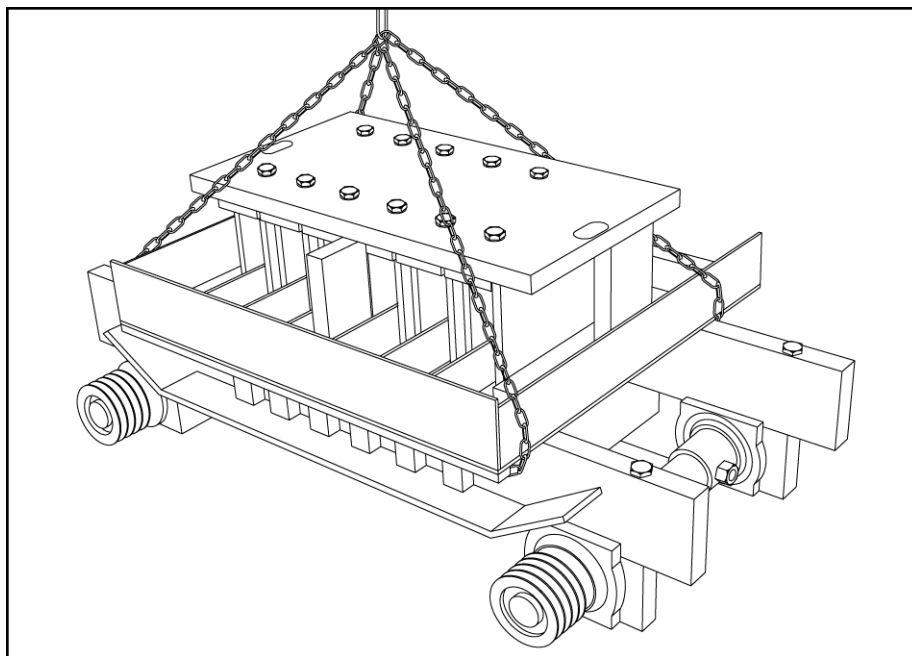

Figure 5.12 MOLD IS CHAINED, READY TO BE PLACED IN MACHINE
- 5.4.10 Chain mold with stripper head as shown in figure 5.12 below. The weight of a complete mold is approximately between 3500 lbs [1600 Kg] and 4000 lbs [1800 Kg]. We recommend the use of an overhead crane.